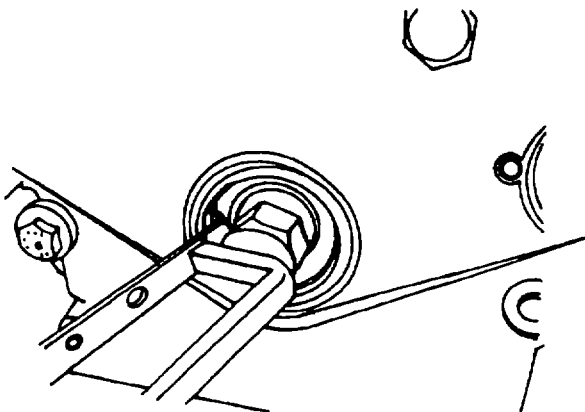

Figure 5-53. Remove Crankshaft Seal
1. Apply puller No. 003-0733 and draw off crankshaft seal (figure 5-53).